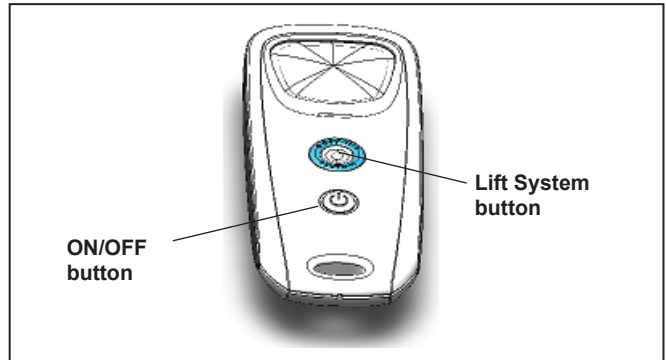

Figure 23. VX55 4WD Remote Control
Press  (see Figure 23) and hold for 3 seconds.
- To remove the cleaner from the pool using the remote control, press  (see Figure 23).